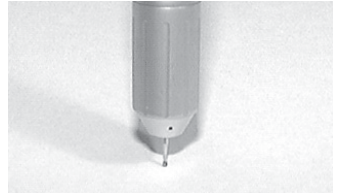

Fig. 12
- 1) As the chuck of the PRESTO AQUA handpiece is a push-in type, set FG burs of  $\varnothing 1.6\text{mm}$  and push in as shown in Fig.12